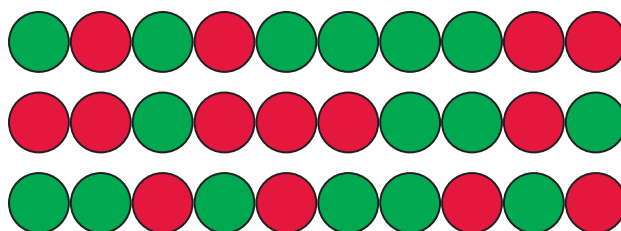

Figure 3-11: Cell Alignment Sequence
1. A perfect alignment process would alternate the two cell types to be fused. In general that does not occur in any known process. The way the cells align is a statistical event. If the cells all have the same radius and equal numbers of each are mixed, then (see Figure 3-11):